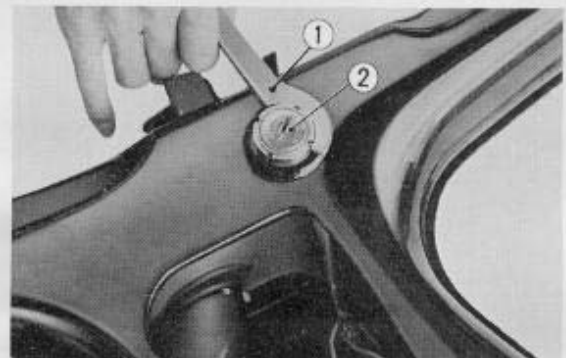

Fig. 4.48 Removing main ignition switch
① Main switch hook spanner
② Main ignition switch
3. Remove the main ignition switch ② from the left center of the frame using the main switch hook spanner. (Tool No. 07071~25001) (Fig. 4.48)